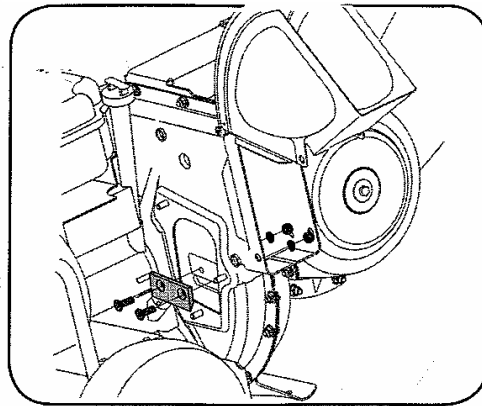

Figure 5-3
6. Remove the blade by removing the internal hex screws, lock washers, and hex nuts which secure it to the impeller. Retain the hardware. See Figure 5-3.